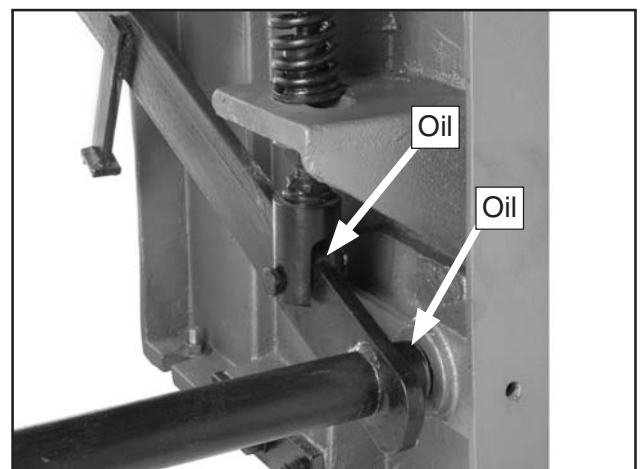

Figure 16. Linkage lubrication.
- Foot pedal linkage (**Figure 16**).